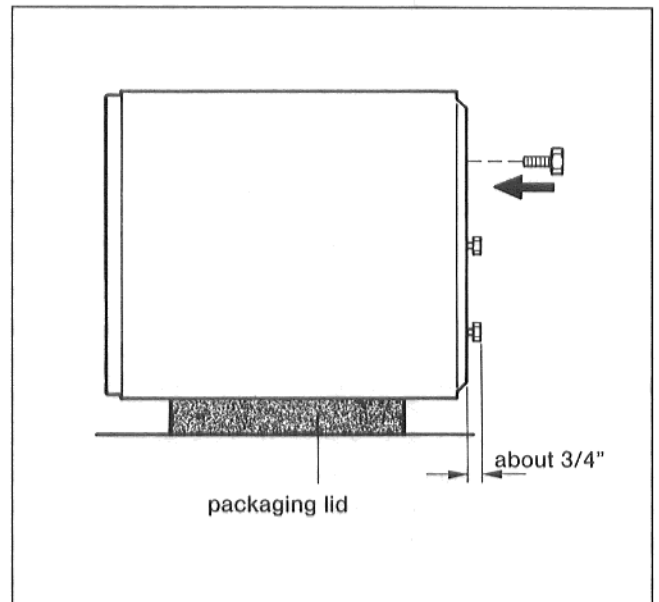

Fig. 3
- Remove packaging lid and put it on the ground as a support (Fig. 3).
- Tilt the storage tank over the edge of the pallet and lay it on its side on the packaging lid (Fig. 3).
- Attach the three screw-in feet to the bottom of the tank. They should extend about 3/4" (Fig. 3).